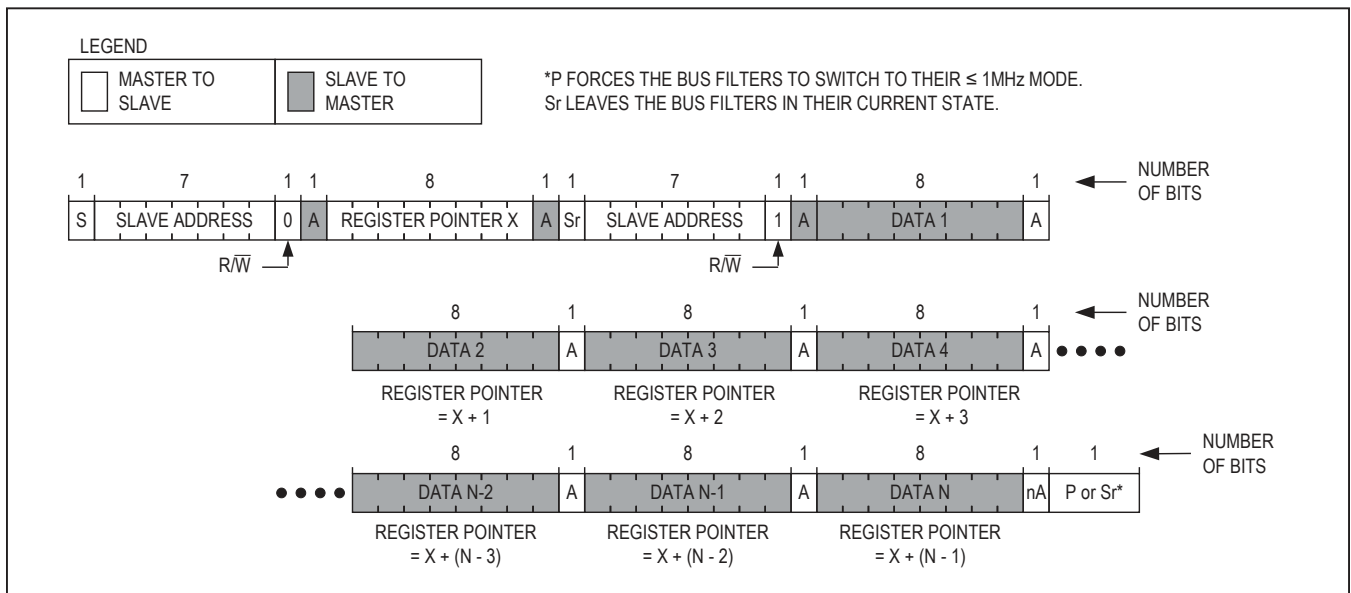

Figure 17. Reading Continuously from Sequential Registers
Figure 17 shows the protocol for reading from sequential registers. This protocol is similar to the “Read Byte” protocol, except the master issues an ACKNOWLEDGE (A) to signal the slave that it wants more data. When the master has all the data it requires, it issues a NOT-ACKNOWLEDGE (nA) and a STOP condition (P) to end the transmission.